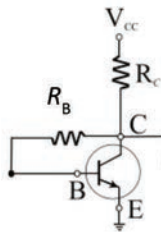

Figure 5.30 Ch 5: No. 13, self-test
13. Determine values of I_C and V_{CE} for the circuit shown in Figure 5.30, if R_B is $200 \text{ k}\Omega$, R_C is $10 \text{ k}\Omega$, V_{CC} is 15 V , β_{DC} is 150, and β_{DC} is 150. (Assuming a silicon BJT)